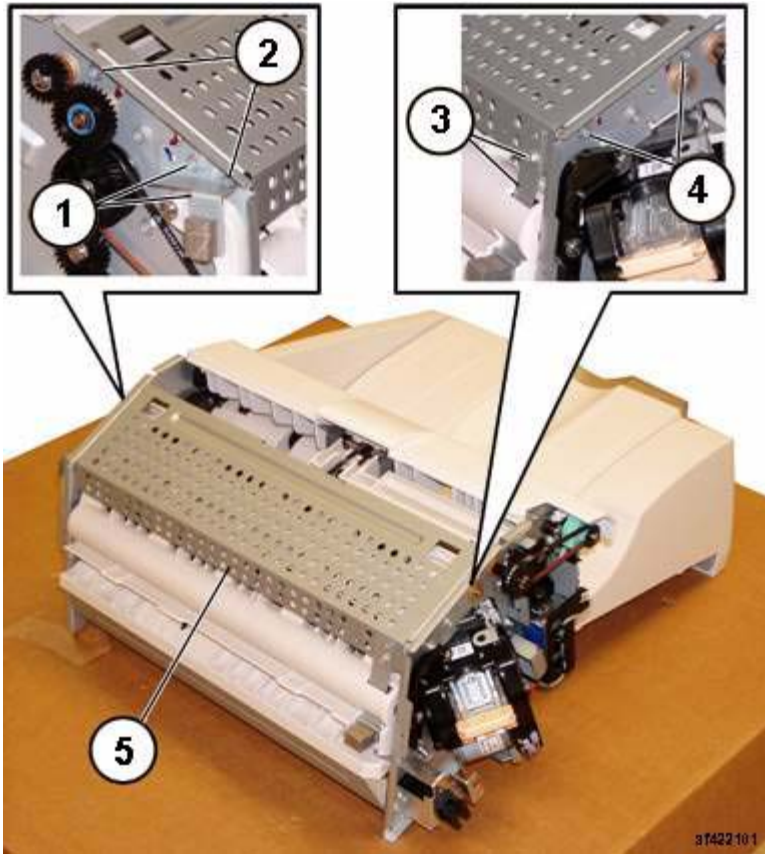

Figure 1 Removing the Upper Frame Section
6. Remove the Upper Frame Section (Figure 1):